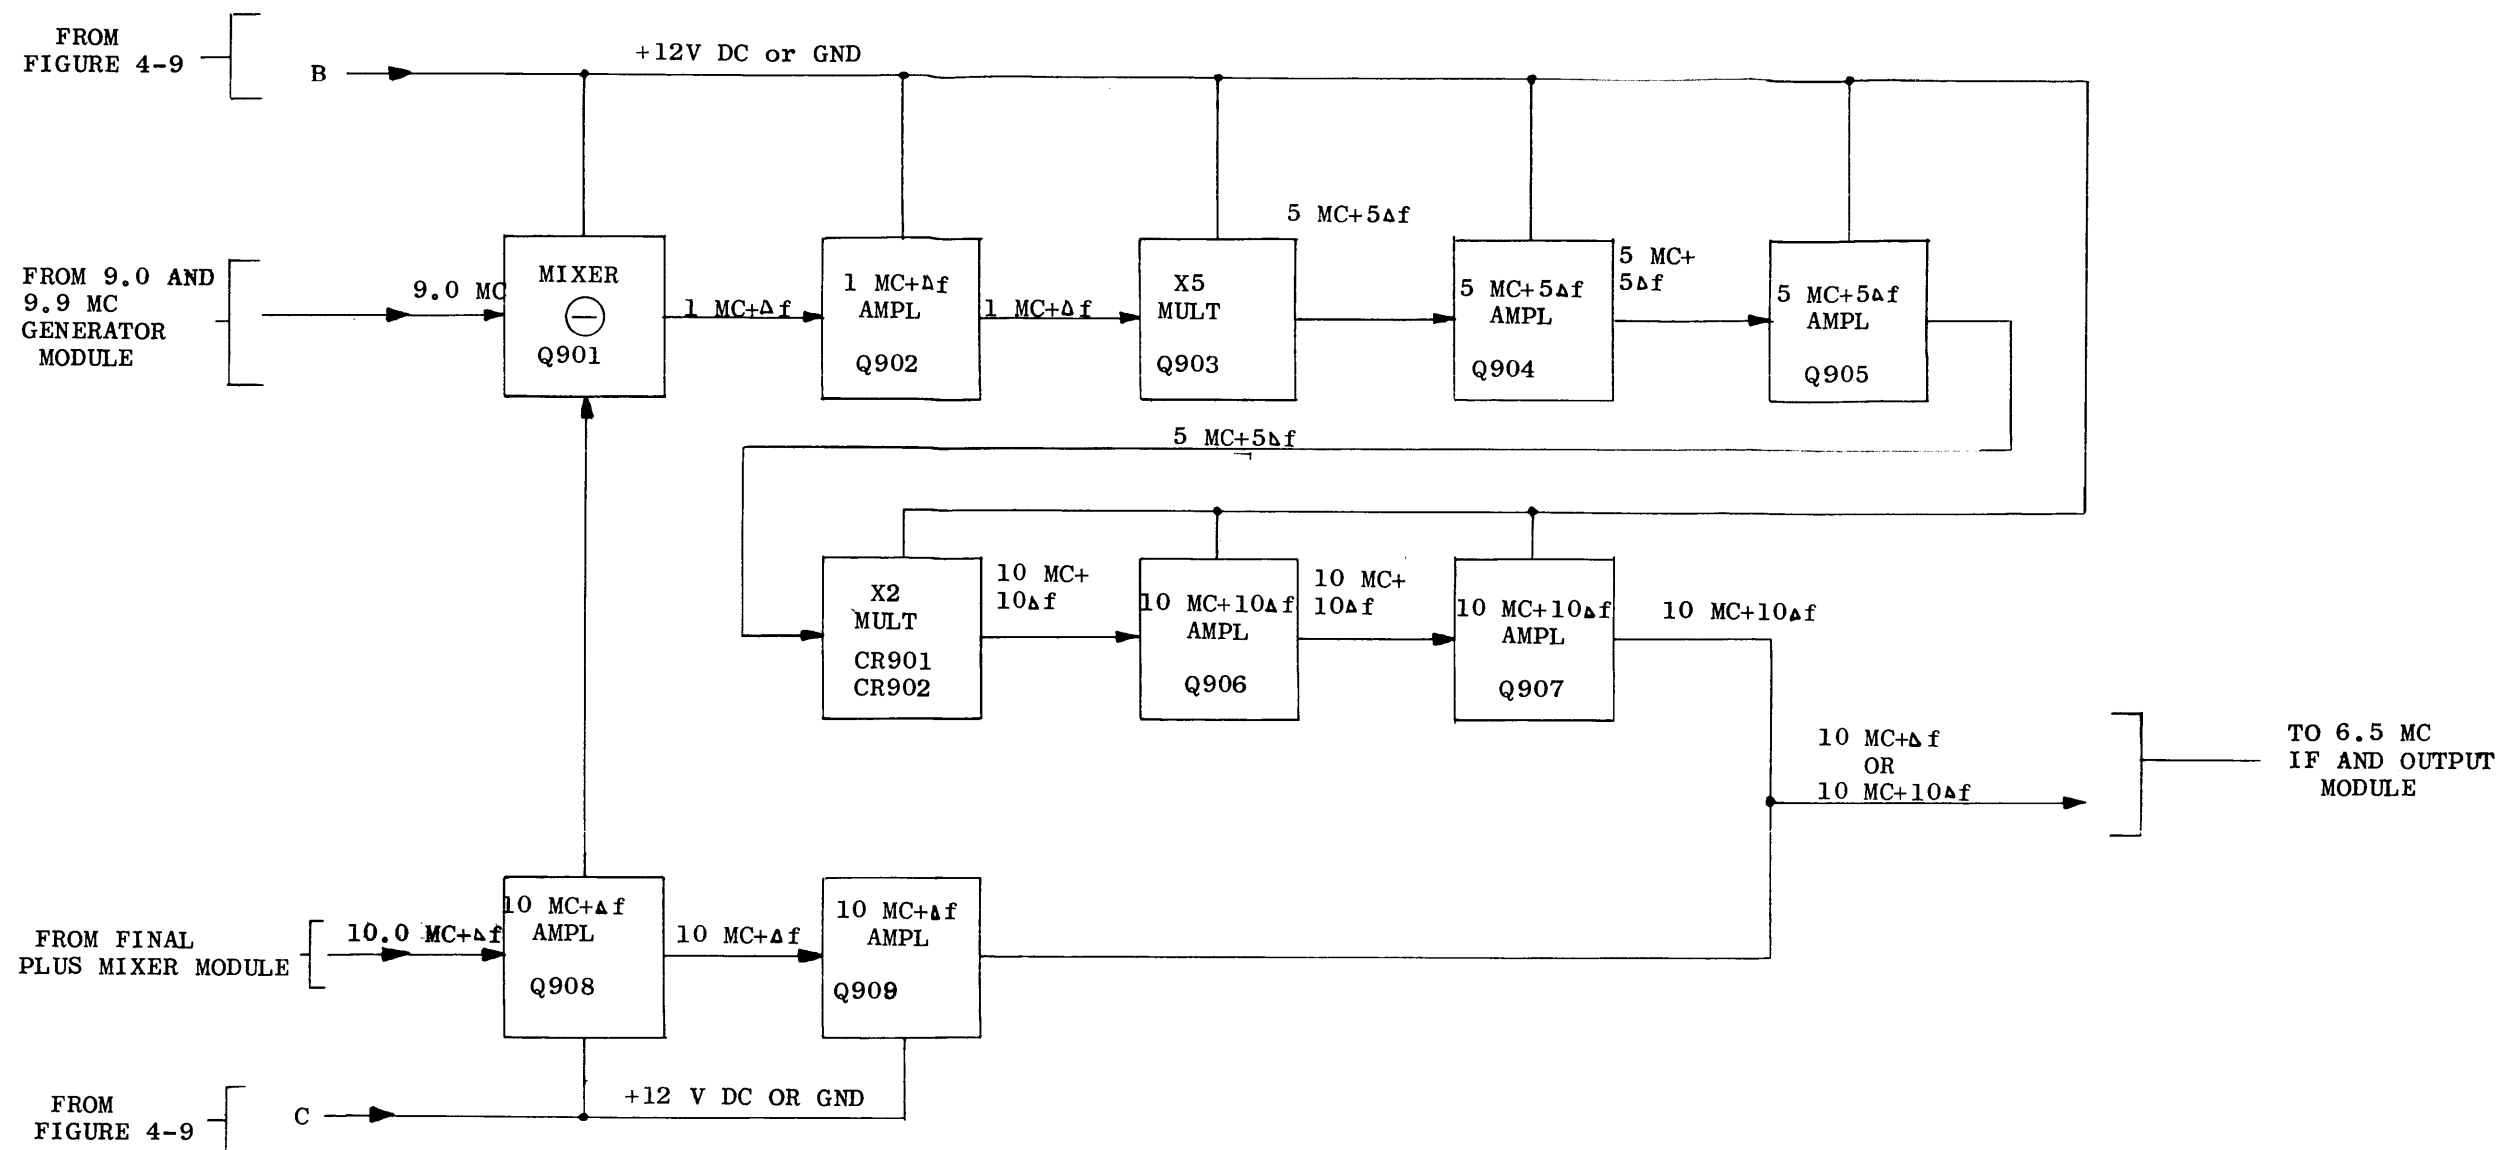

Figure 4-10. Output Mixer-Multiplier Module, Functional Block Diagram
g. OUTPUT MIXER-MULTIPLIER MODULE. - Figure 4-10 is a functional block diagram of the Output-Mixer-Multiplier Module. The module input and output signals depend upon the position of FREQUENCY MULTIPLIER switch S453. When switch S453 is set at X10, the module receives a 9.0 megacycle signal from the 9.0 and 9.9 megacycle generator and produces a $10 \text{ Mc} + 10\Delta f$ output signal. When switch S453 is set at X1, the module provides amplification of the $10 \text{ Mc} + \Delta f$ output signal.